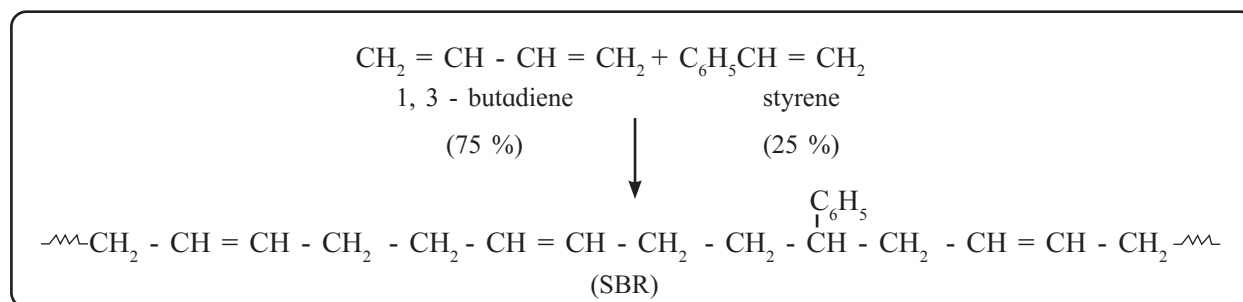

Fig. 15.5 Formation of SBR (Buna - S)
15.3.8 Buna-S rubber : Buna-S is an elastomer which is a copolymer of styrene with butadiene (Fig.15.5). Its trade name is SBR (styrene-butadiene rubber). The copolymer is usually obtained from 75 parts of butadiene and 25 parts of styrene subjected to addition polymerization by the action of sodium. It is vulcanized with sulfur.